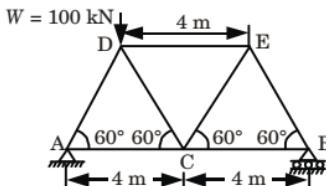

Fig. 30.
- b. Fig. 30 shows a pin-jointed truss loaded with a single load W is 100 kN. If the area of cross-section of all members shown in Fig. 30 is  $1000 \text{ mm}^2$ , what is the vertical deflection of point C ? Take  $E = 200 \text{ kN/mm}^2$  for all members.